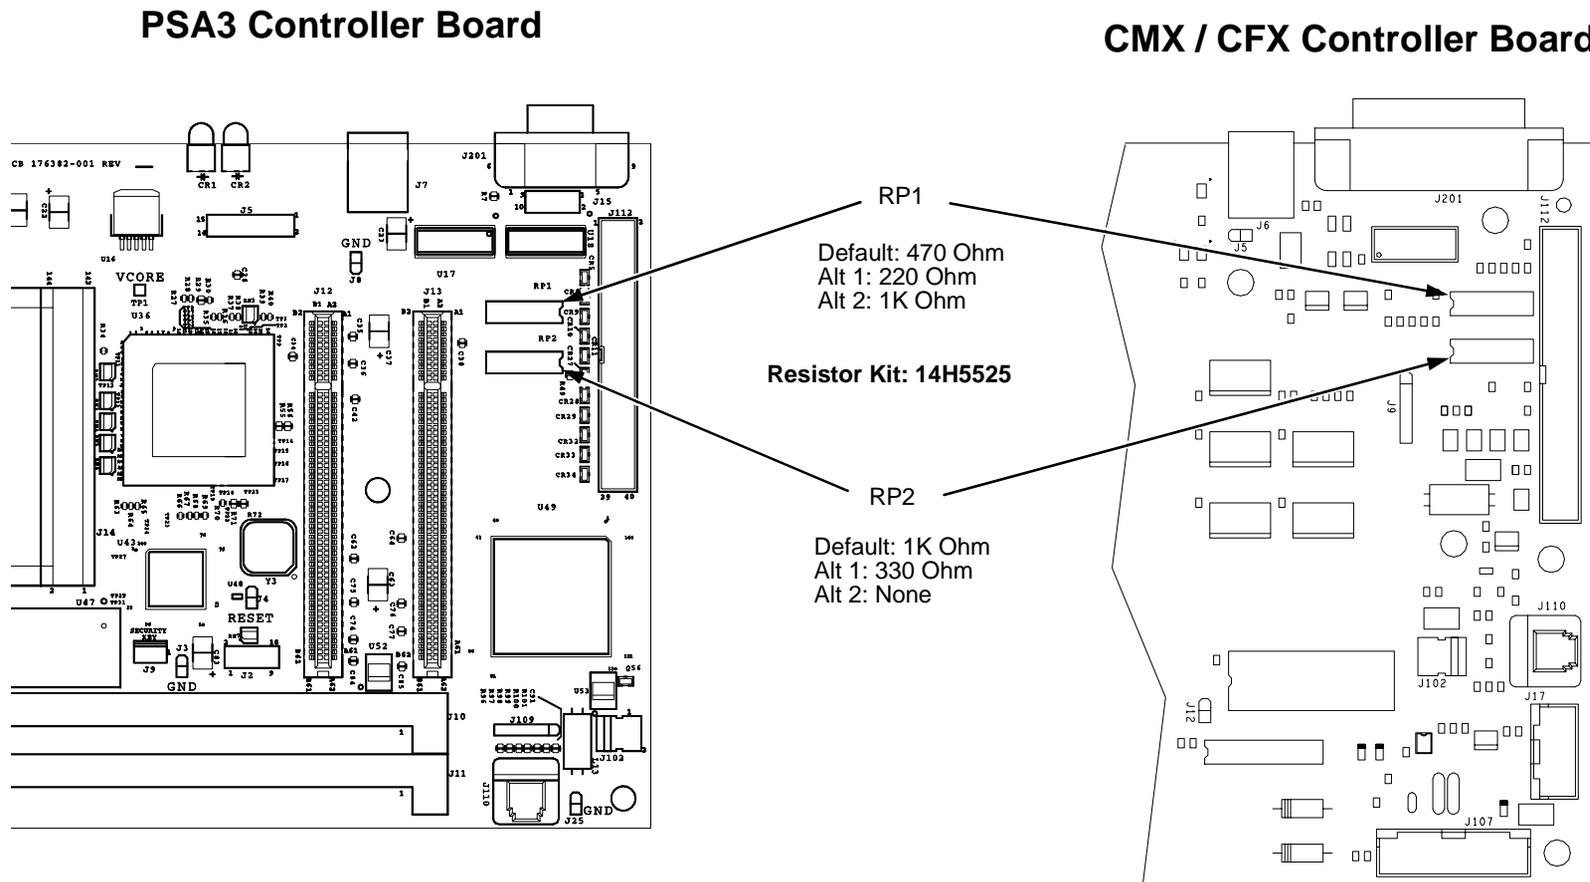

Figure 30. This figure shows the size and location of the terminating resistors on the controller board.
For parallel interface configurations, the printer is equipped with 470 ohm pull-up terminating resistors and 1K ohm pull-down terminating resistors on the controller board. These are suitable for most applications. (See Figure 30, page 399.)
3. Locate the terminating resistor packs. (See Figure 30, page 399.)
1. Using a chip installation tool, install the resistor packs in the correct socket. (See Figure 30, page 399.)